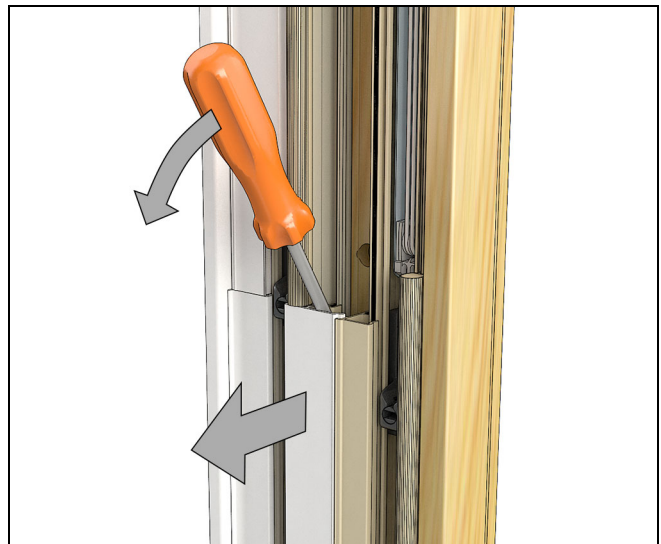

Figure 32
5. Using a screwdriver, pry behind aluminum/vinyl mid-cover assembly to release it from frame. See Figure 32.